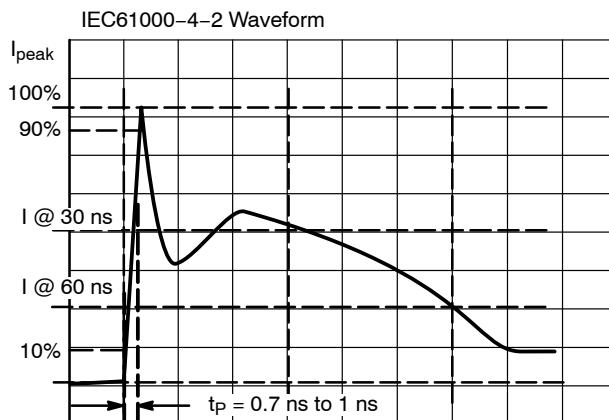

Figure 7. IEC61000-4-2 Spec
1. For test procedure see Figures 7 and 8 and application note AND8307/D.